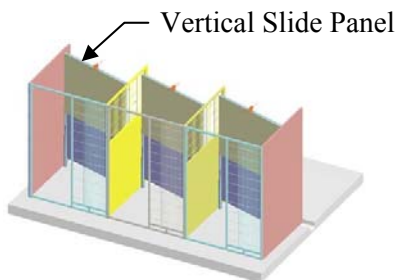

Figure 9
5. Locate the Vertical Slide Panels and place them inside the kennels you have already half way assembled as shown in (**Figure 9**).